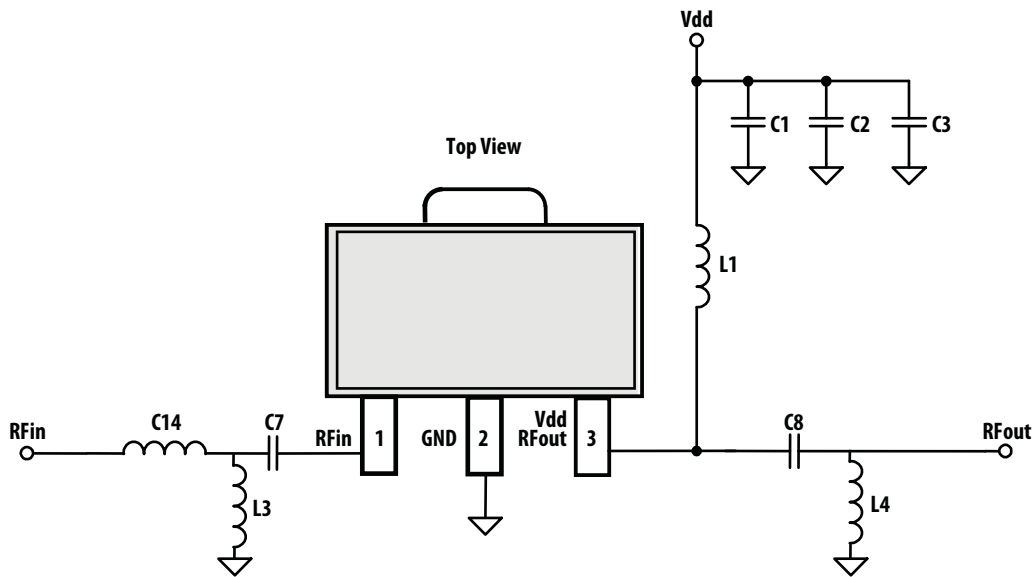

Figure 30. Application Schematic
1. Measurements obtained using demo board described in Figure 30 and 31. 3.5GHz data was taken with 3GHz - 4GHz Application Test Circuit and 5GHz data with 4GHz - 6GHz Application Test Circuit respectively.
$T_A = 25^\circ\text{C}$ ,  $V_{dd} = 5\text{V}$ , Input Signal = CW unless stated otherwise. Application Test Circuit is shown in Figure 30 and Table 1.
TA = 25°C, Vdd = 5V, Input Signal = CW unless stated otherwise. Application Test Circuit is shown in Figure 30 and Table 1.
TA = 25°C, Vdd = 5V, Input Signal = CW. Application Test Circuit is shown in Figure 30 and Table 2.
TA = 25°C, Vdd = 5V, Input Signal=CW. Application Test Circuit is shown in Figure 30 and Table 2.
TA = 25°C, Vdd = 5V, Input Signal=CW. Application Test Circuit is shown in Figure 30 and Table 3.